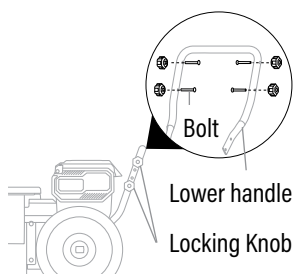

Fig. 2A
1. Loosen the four locking knobs that pre-assemble on the lower handle and remove the four locking knobs and bolts. (Fig. 2A)